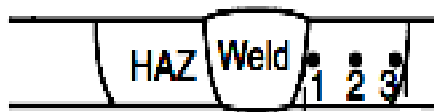

Figure 1: HAZ region in weldment
- (a) Based on Figure 1, sketch the microstructures and thermal cycles for point 1, 2 and 3.